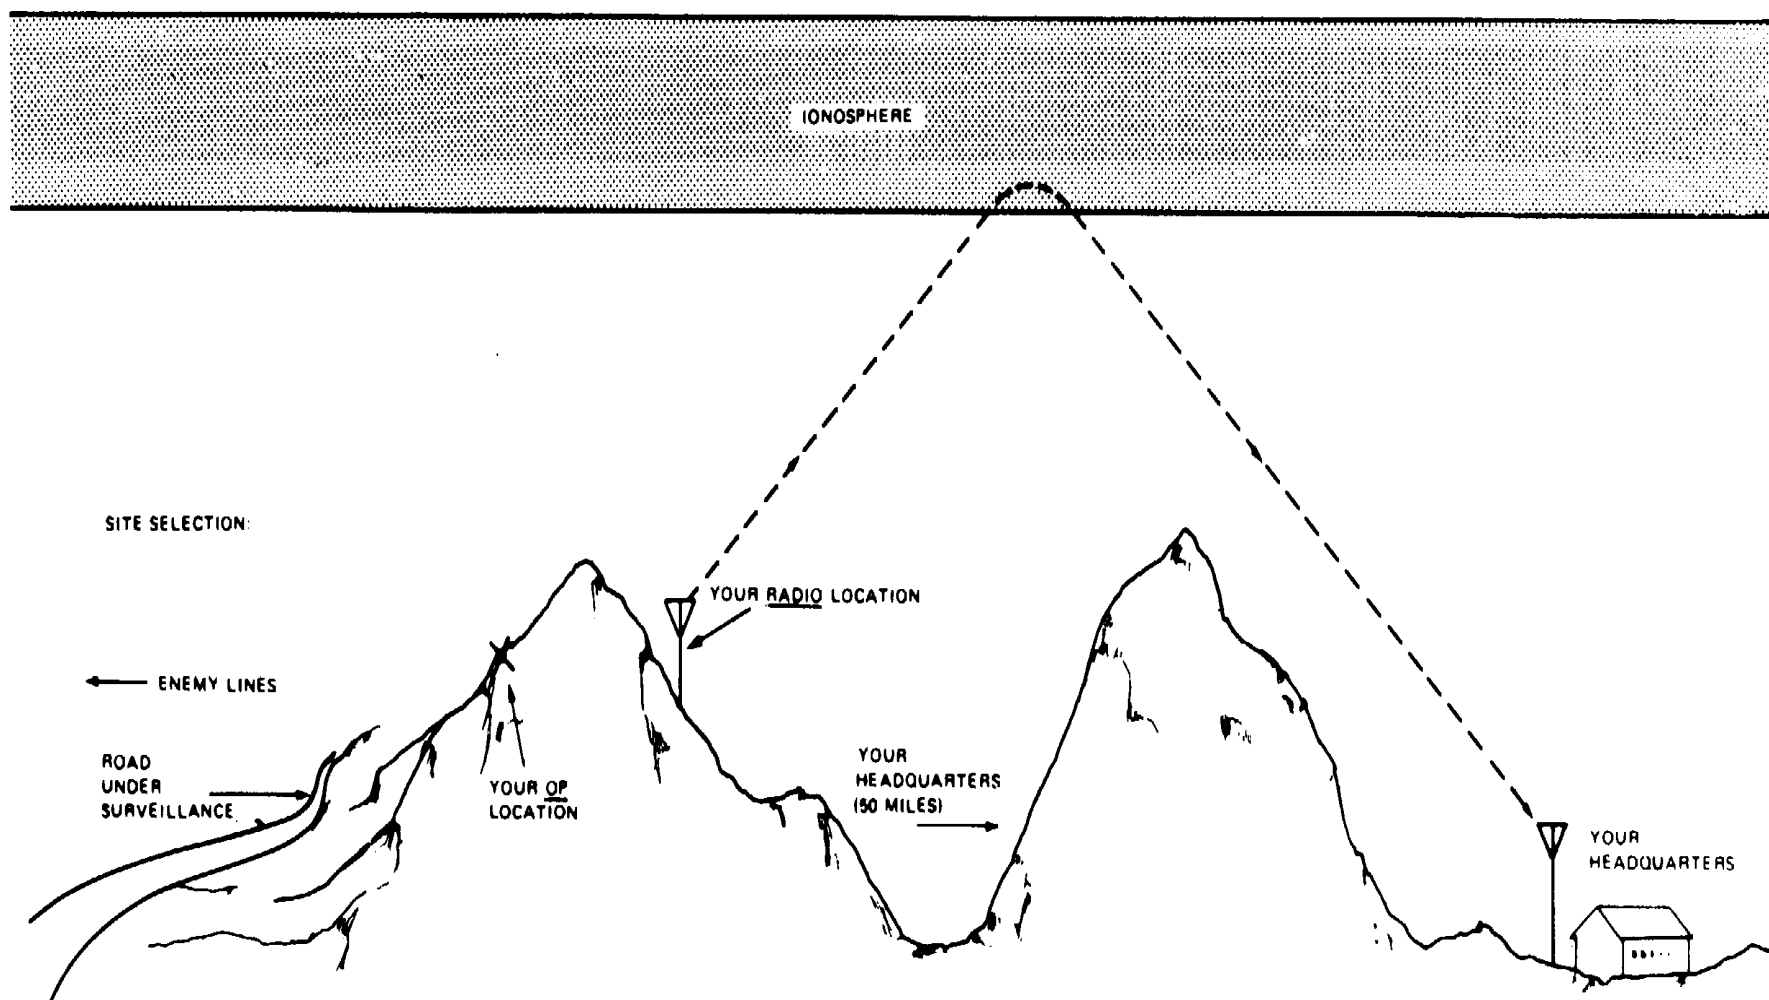

Figure A2-6. Site Selection, Situation
**A2-24. Scenario (Figure A2-6).** Your squad must set up an observation post (OP) as part of a road surveillance team. You are required to check in with your headquarters (50 miles east) once every hour. Your OP is in a mountainous region and a large mountain is located between you and your headquarters (see figure A2-6). Your frequency possibilities are the same as in situation 1.